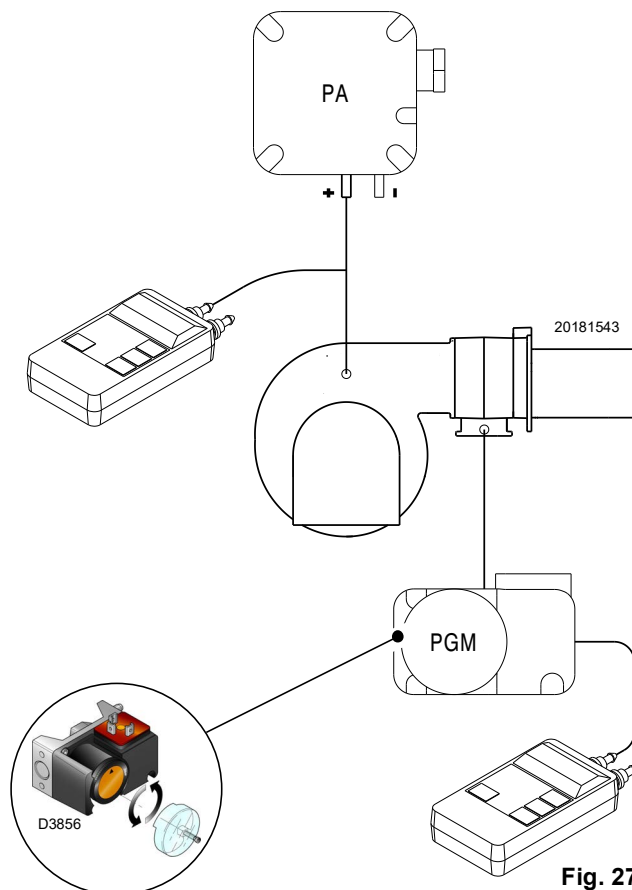

Fig. 27
- Adjust the maximum gas pressure switch (Fig. 27 on page 27) to the end of the scale.
Adjust the maximum gas pressure switch (Fig. 27) after making all other burner adjustments with the maximum gas pressure switch set to the end of the scale.